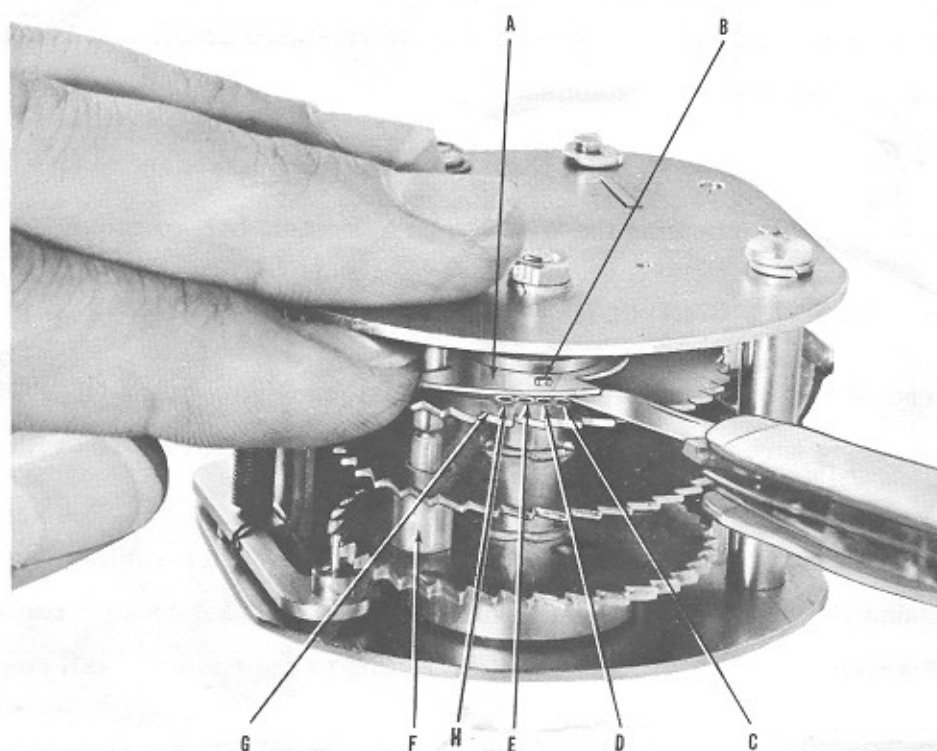

FIG. 3 - VIEW OF ACCUMULATOR
- A. Insert thin blade of pocket knife under quarter wafer (A-Fig. 3), twist slightly, raising wafer pin (B-Fig. 3) from hole.
- B. Keep quarter ratchet wheel from rotating and move quarter wafer until pin drops into three play hole (H-Fig. 3) closest to ratchet spring stud (F-Fig. 3).
- B. Keep quarter ratchet wheel from rotating and move quarter wafer until pin drops into six play hole (C-Fig. 3) farthest from ratchet spring stud (F-Fig. 3).
- B. Keep quarter ratchet wheel from rotating and move quarter wafer until pin drops into four play hole (E-Fig. 3), which is the second hole from the ratchet spring stud (F-Fig. 3).